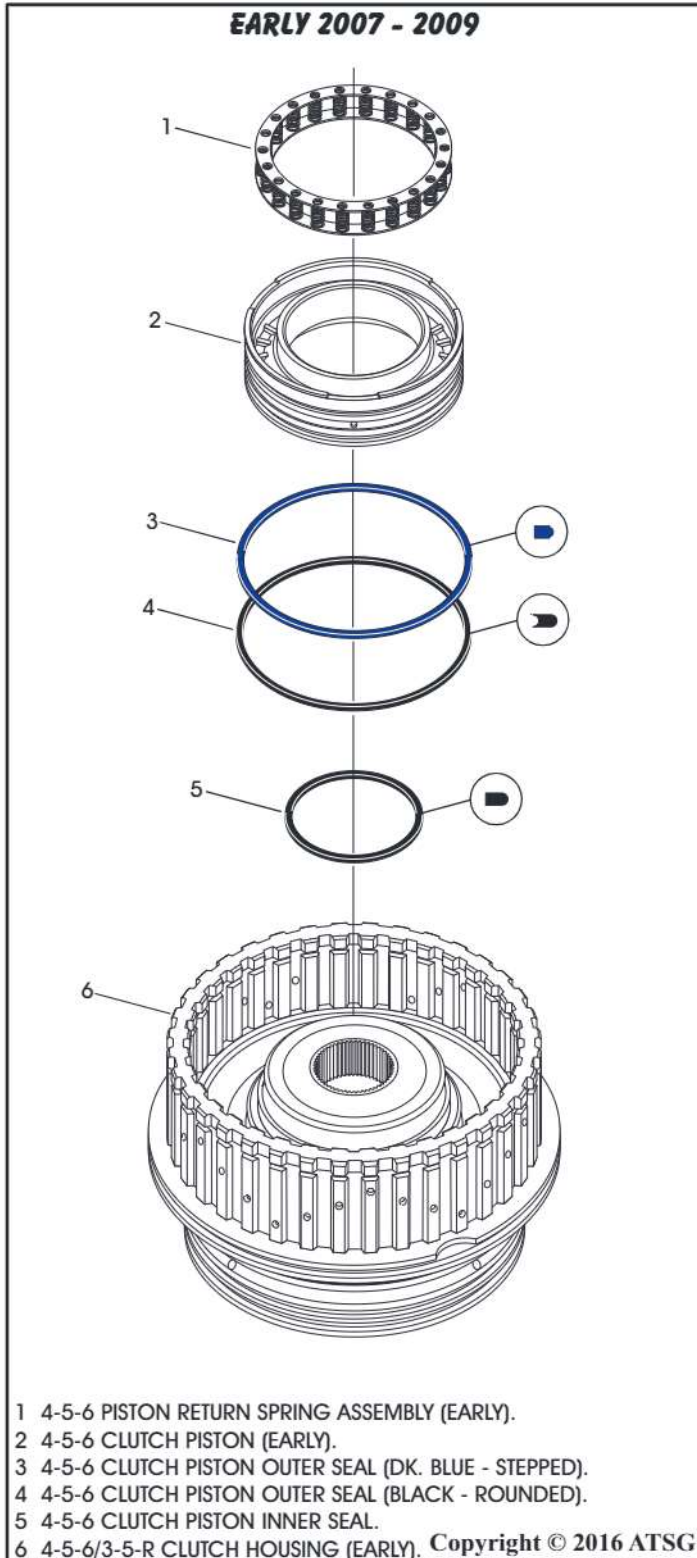
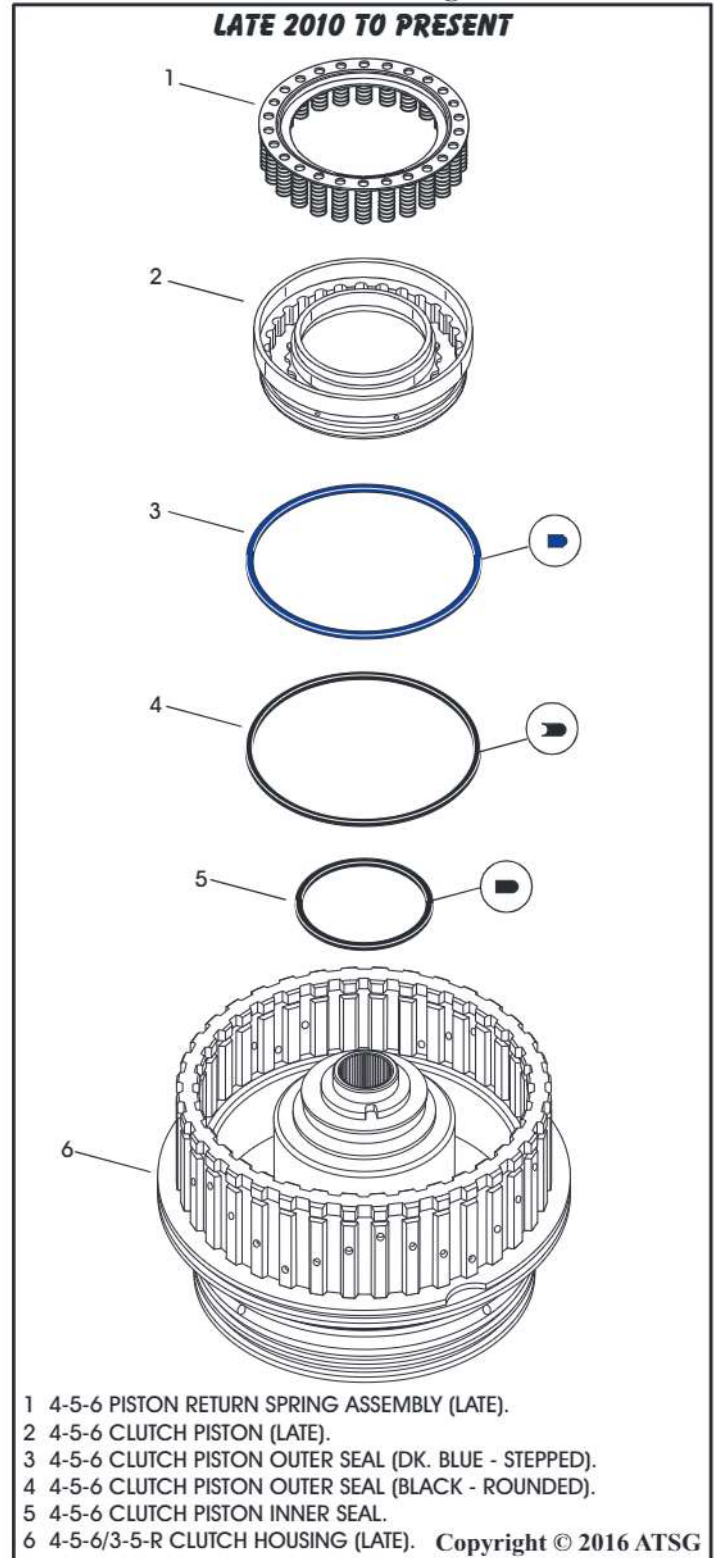

Figure 100
Figure 101
36. Remove the clutch piston return spring assembly shown in Figure 100 (early), Figure 101 (late).
37. Remove the 4-5-6 clutch piston shown in Figure 100 (early), Figure 101 (late).
38. Remove and discard all 4-5-6 clutch piston seals as seen in Figure 100 (early), Figure 101 (late).